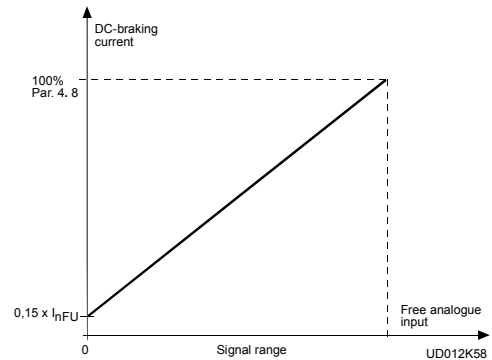

Figure 6-10: Reducing DC Brake Current
- 2 “DC-curr Scaling”** — Reducing DC brake current. The DC braking current can be reduced with the free analog input signal, between $0.15 \times I_{nSV}$ and current set with parameter 4.8. See Figure 6-10.